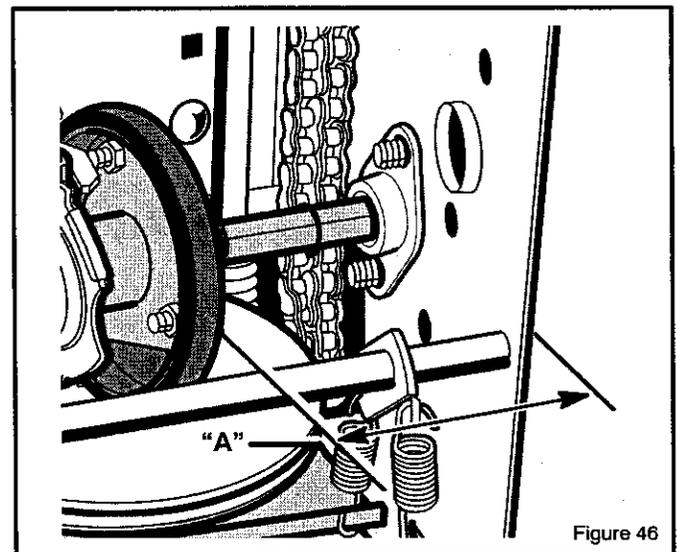

Figure 46
6. Note the position of the **friction wheel** (see Figure 46). The correct distance "A" from the right side of the **friction wheel** to the outside of the motorbox is as follows:
3. Move the **friction wheel** to the correct position (see Figure 46).